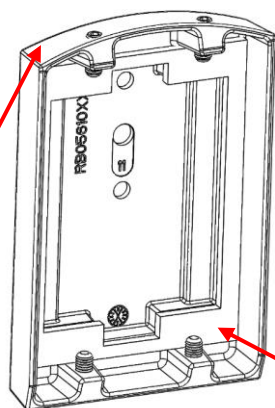

Figure 7
3. Wall mount bracket cover with preinstalled gasket, see figure 7
**Step 3:** Prepare the cover plate by ensuring the factory-installed, black foam gasket is in place on the backside of the cover plate (See Fig 7) NOTE: For the next steps the curved portion of the cover plate should point upwards when mounted to the wall as shown in figure 9